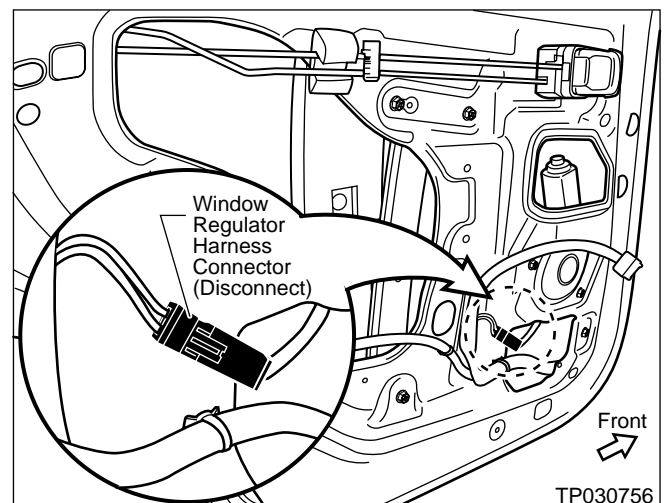

Figure 19
10. Disconnect the Window Regulator Harness Connector (see Figure 19).